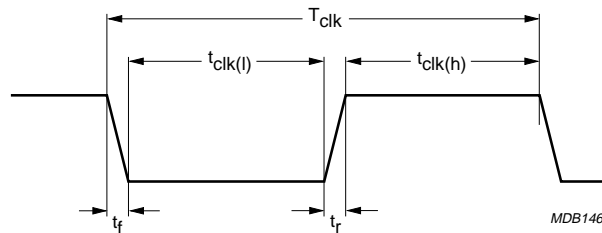

Fig 7. Aud_clk characteristics
- aud_clk: audio clock reference; can be $256/384/512/768 \times f_s$ ($f_s = 44.1$ to 48 kHz); see Figure 7 and Table 4